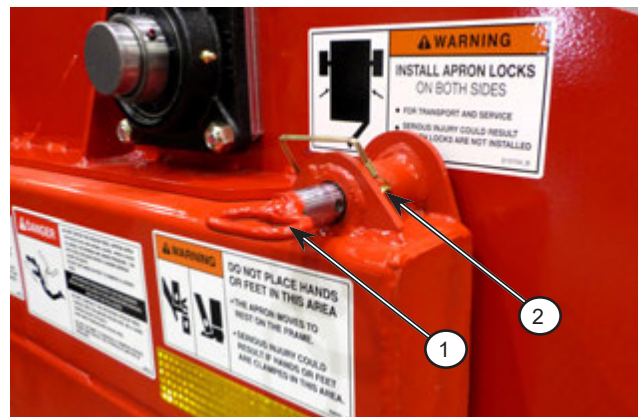

Figure 7.7: Remove the pin lock from the apron lock
- b. Remove the apron locks from the storage position on the left and right frame rail; see *Figure 7.7*.
- i. Remove the  $\frac{5}{16}$ " locking pins (2) from the 1" apron pins (1) and frame.